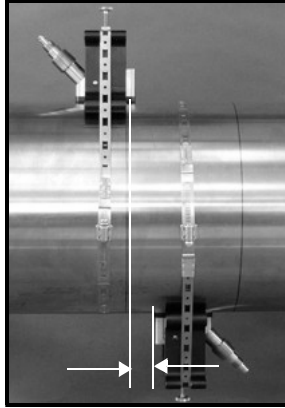

Figure 36: Distance Between Transducer Faces
2. Approximate the axial distance from one transducer face to the other transducer face, as shown in Figure 36 below.
3. Lay the first strip of dampening material flat. Cut a strip to a width equal to the distance between transducer faces (the distance illustrated in Figure 36 above).